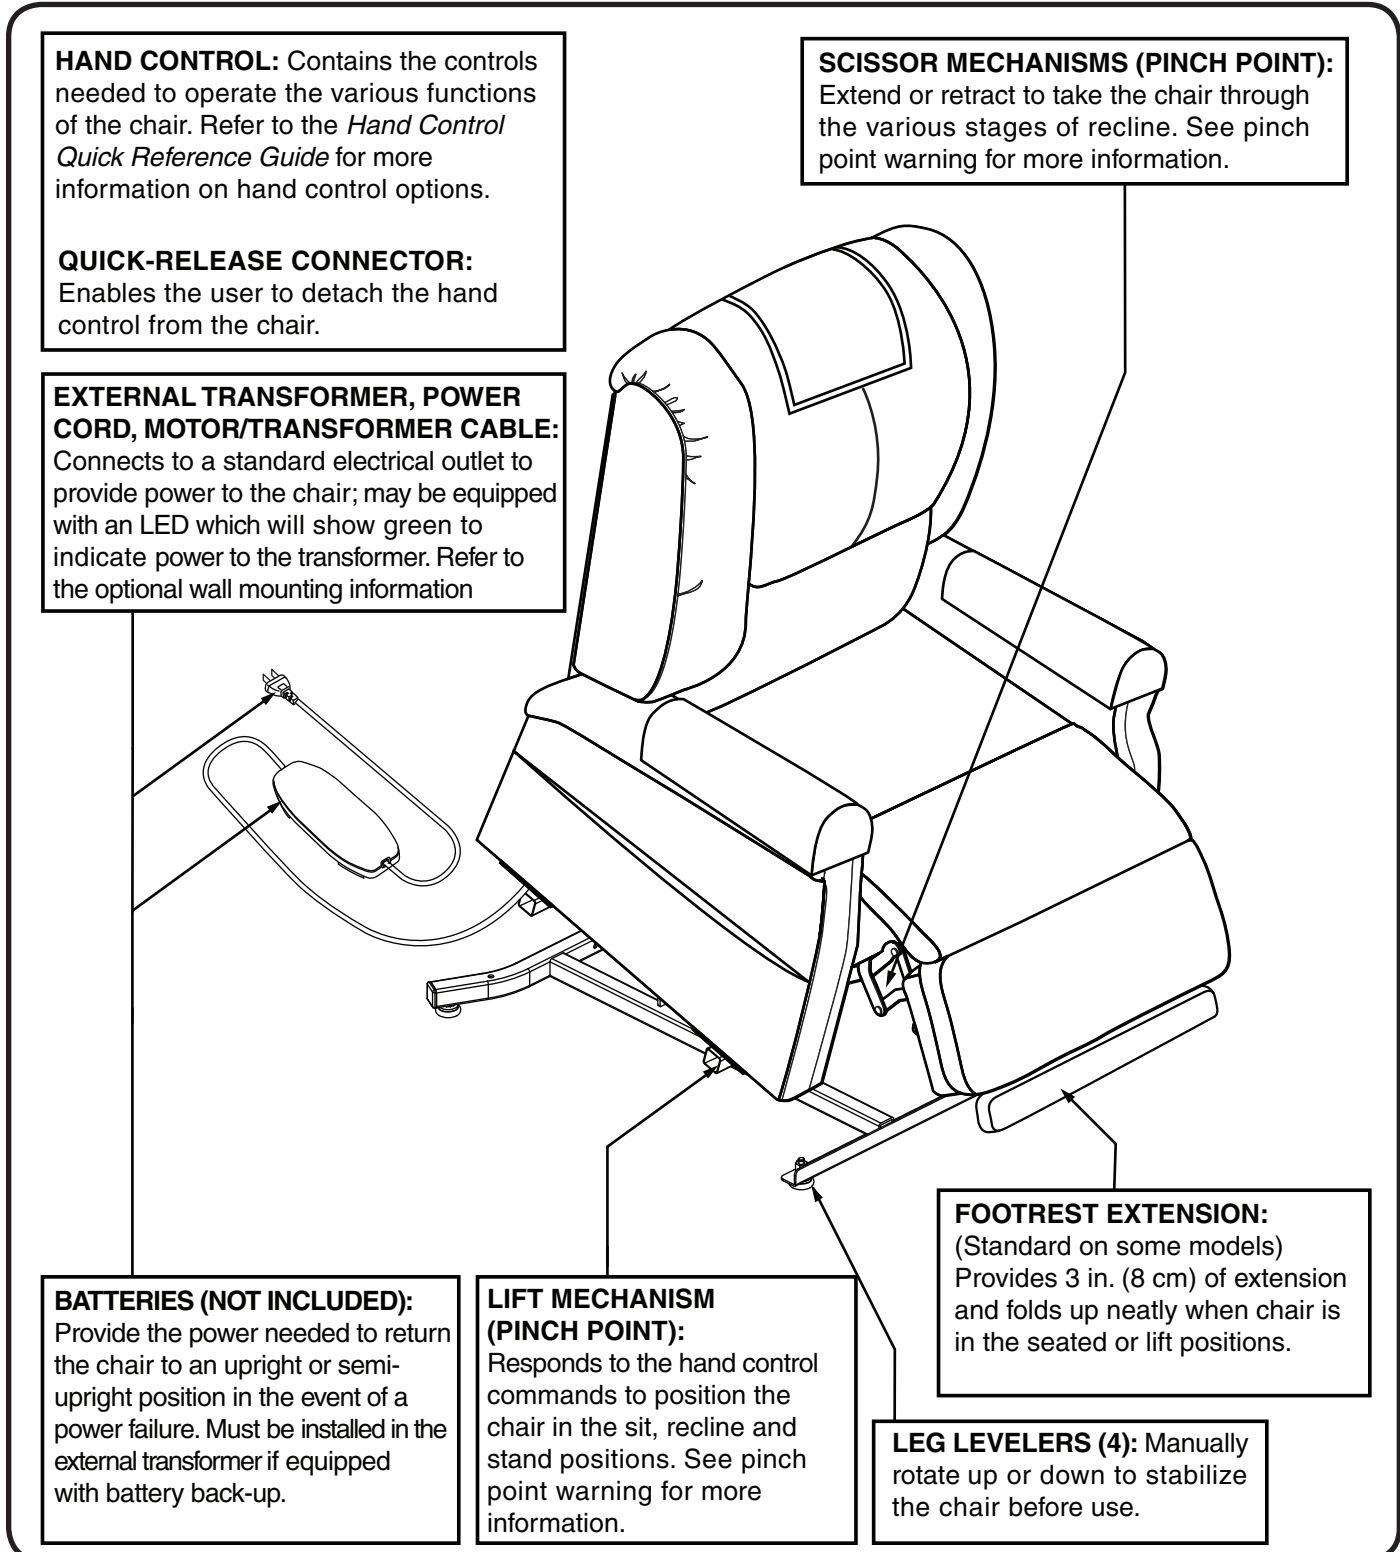

Figure 3.1 Chair Main Components
The scissor and lift mechanisms are labeled as pinch/crush point hazards on your chair. Keep clear of these areas and make sure the path of motion is unobstructed. See **figure 3.1** for pinch/crush point locations.
Chairs are equipped with several frame and electrical components. Typically, frame (or body) components include a removable back, chaise pad, seat, footrest, leg levelers, a lift frame, and scissor mechanisms. The electrical components include the external transformer with connection cables, hand control, motor and batteries† (not included). Refer to **figure 3.1** and note that the illustrations and options listed may not reflect the type of chair that you own.
- Adjust the leg levelers to stabilize the chair (Fig. 3.1).